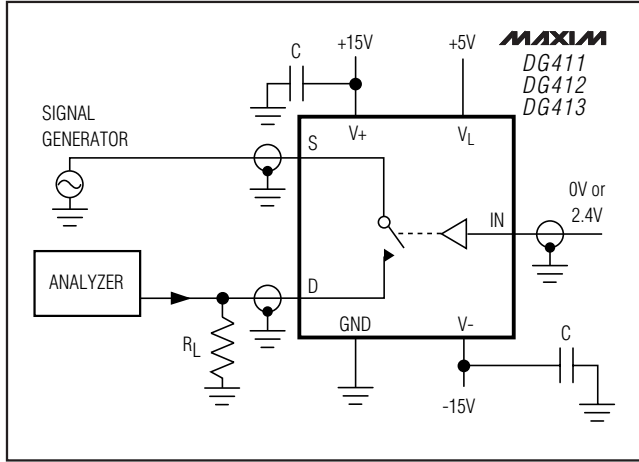

Figure 5. Off-Isolation
**Note 5:** Off-Isolation =  $20\log(V_D/V_S)$ ,  $V_D$  = output,  $V_S$  = input to off switch. See Figure 5.